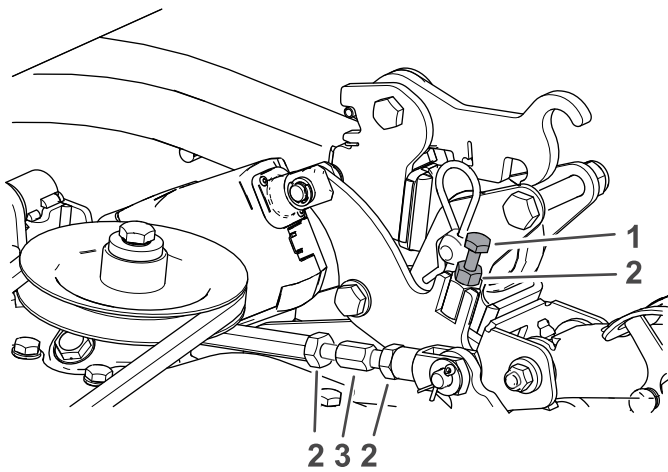
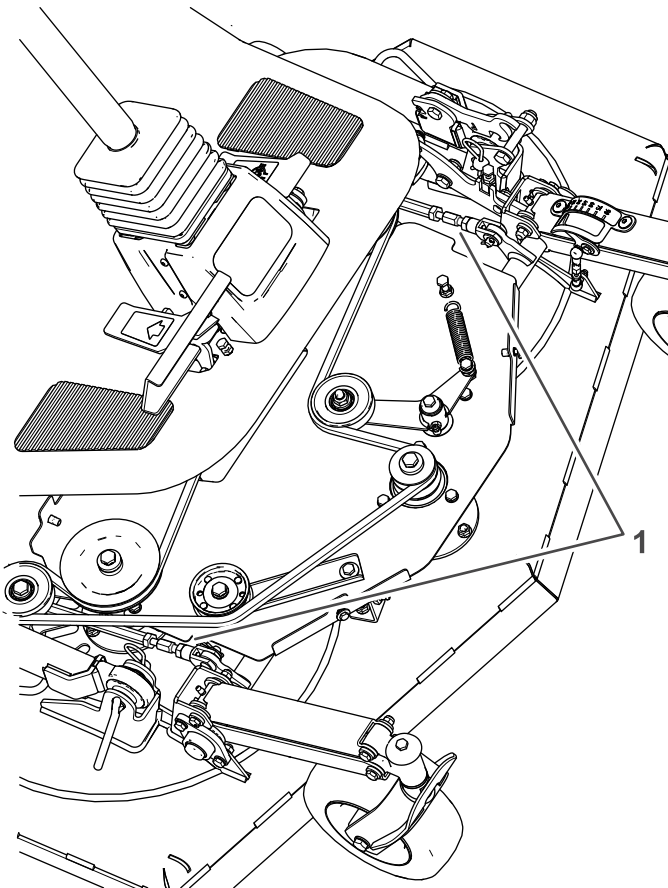

Figure 100
Figure 101
- B. To raise the front of the machine to 64 mm (2-1/2 inch), loosen the jam nut and adjust the adjustment bolt; refer to Figure 100.
- C. To raise the back of the cutting-unit, loosen the jam nuts for the tie-rods on both sides of the cutting unit (Figure 100 and Figure 101).
6. Tighten the jam nuts for the tie-rods (Figure 100).